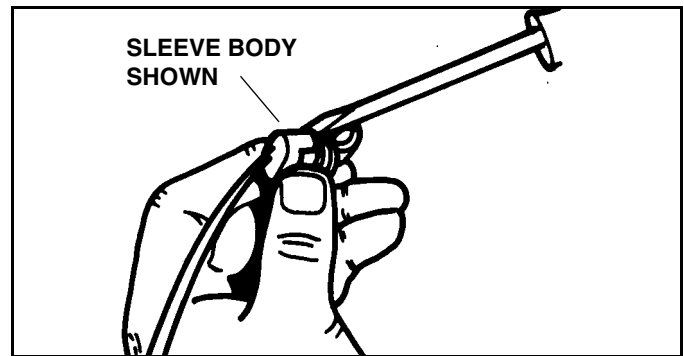

Figure 3-4
2. Remove wire retainer on sleeve body or pin body, as necessary, with a screwdriver and save for re-use (See Figure 3-4).